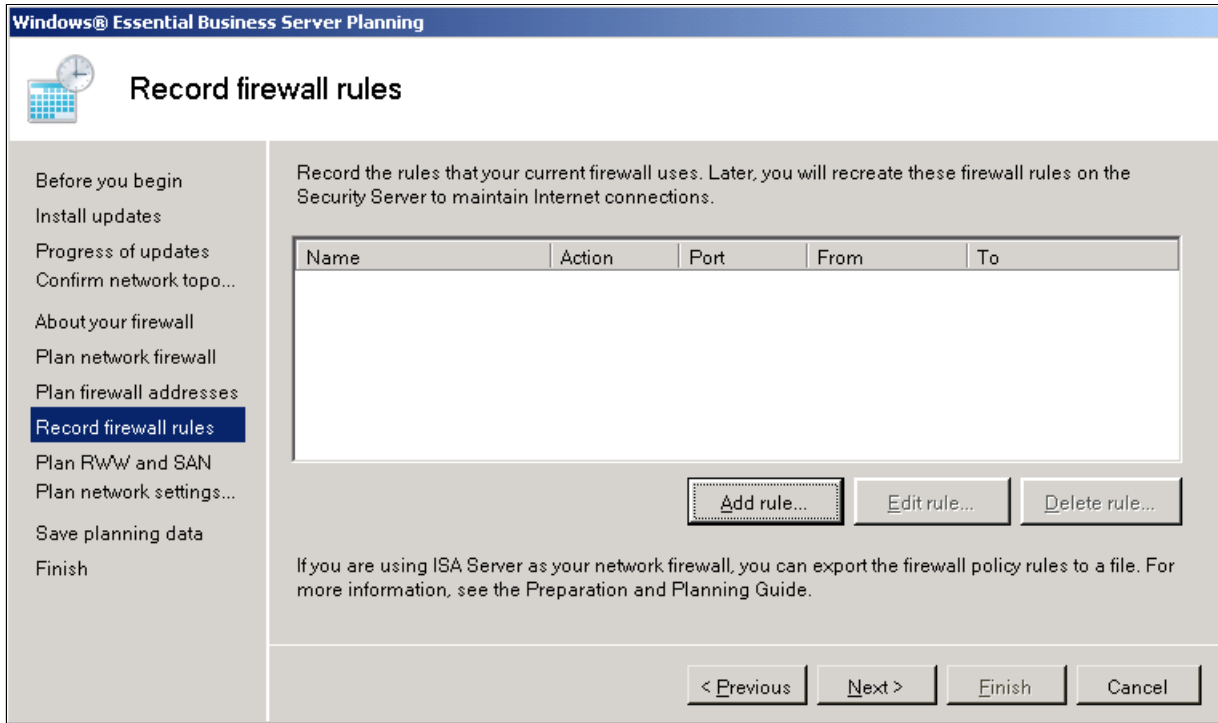

Figure 3-14 Firewall rules
6. (Optional) If any specific firewall rules are in place in your current environment, you can record them in the “Record firewall rules” panel (Figure 3-14). Click **Next**.